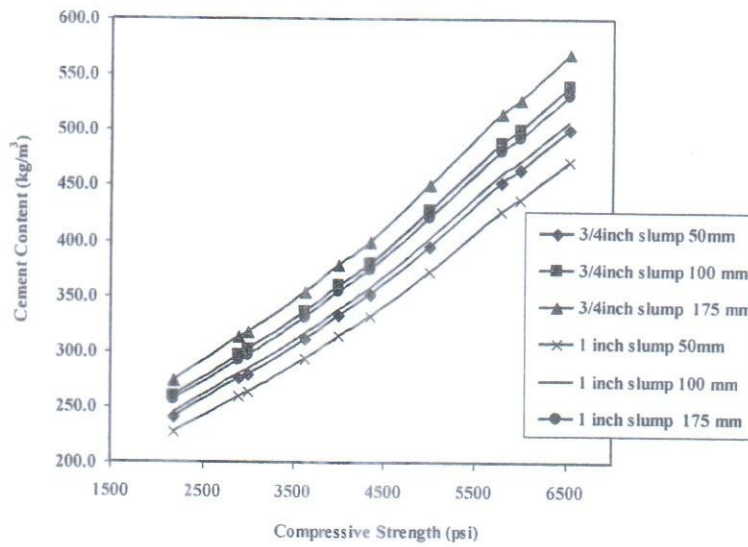

Fig. 2 Cement Content versus Compressive Strength (aggregate type = stone chips)
- Variation of cement content with compressive strength (28 days) for different aggregate size and slump value (Fig. 2).